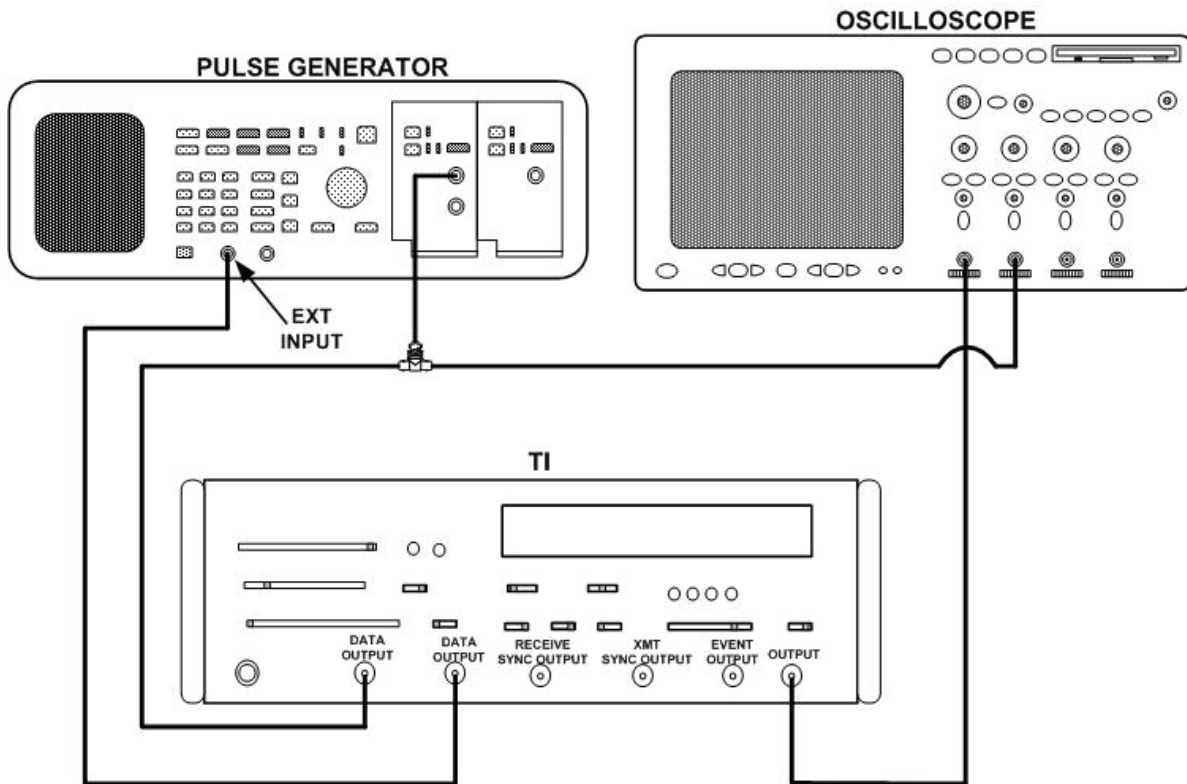

Figure 4. Jitter-total peak - equipment setup.
To prevent damage to circuitry, be sure RS232C interface board is installed in TI, and pulse generator is adjusted for minimum output before connecting as shown in figure 4.
(3) Connect equipment as shown in figure 4.
(4) Adjust pulse generator for external triggered operation. Adjust output for +3 V peak and pulse width for 40 percent duty cycle as monitored on channel 2 of oscilloscope. Damage of data input circuit will occur if this is not done. If digital readout is not between 18 and 22 percent and oscilloscope channel 1 waveform is not at least a 2-V p-p square wave, perform **b** below.
(5) Set **JITTER/TOTAL PEAK** switch to **JITTER**. Digital readout will indicate less than 2 percent.
(6) Set TI switches as listed in (a) through (c) below: